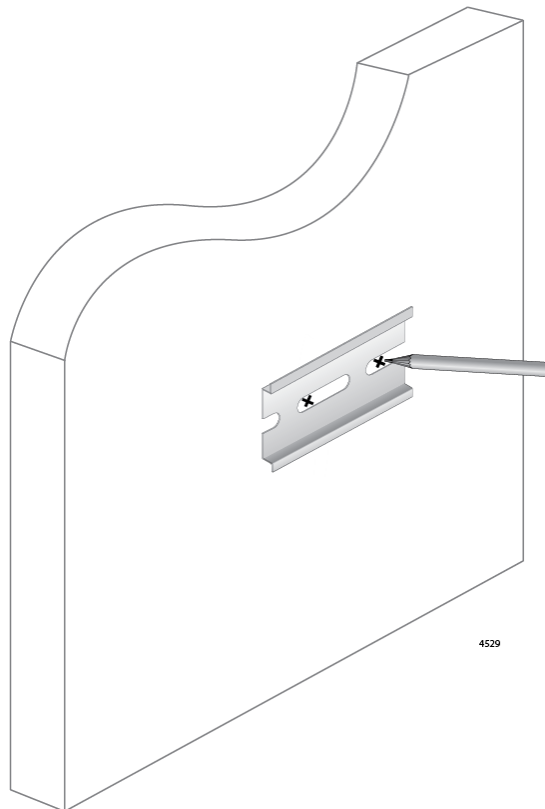

Figure 14. Marking the Wall for Screw Locations
1. Use a pencil or pen to mark the wall with two screw locations in the openings of your DIN rail. See Figure 14.